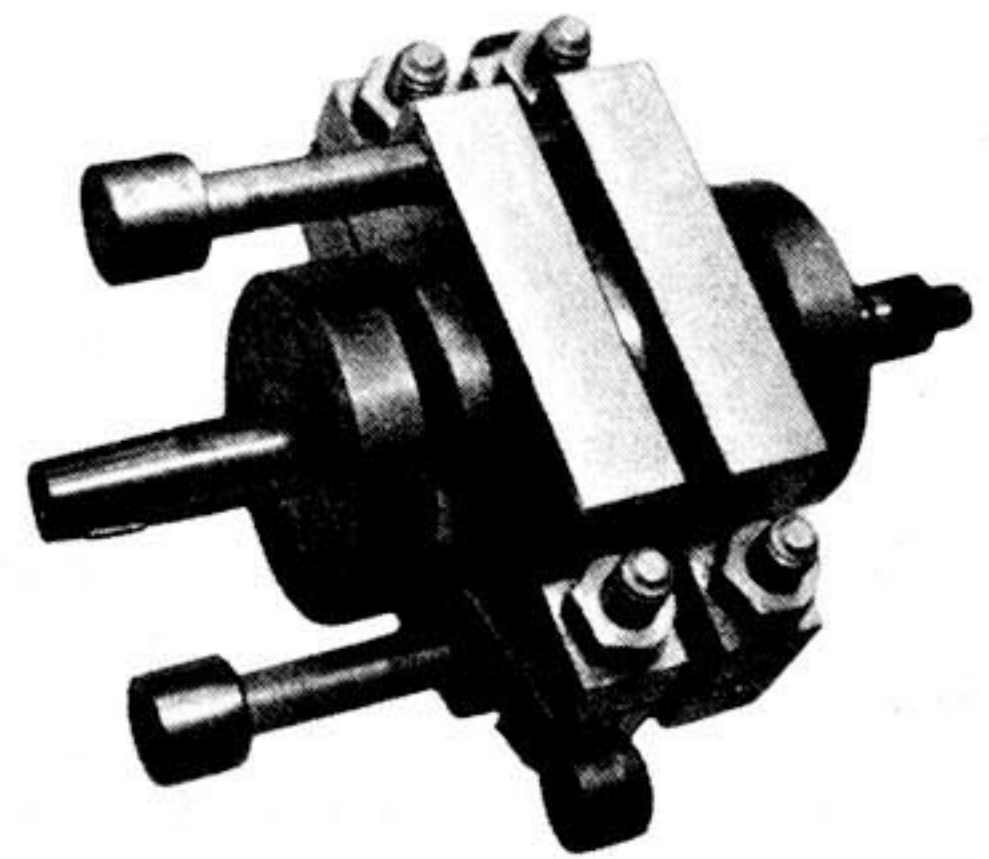

Fig. 4-17-7
- 3) Fig. 4-17-7 shows the tools installed on the crankshaft ass'y.